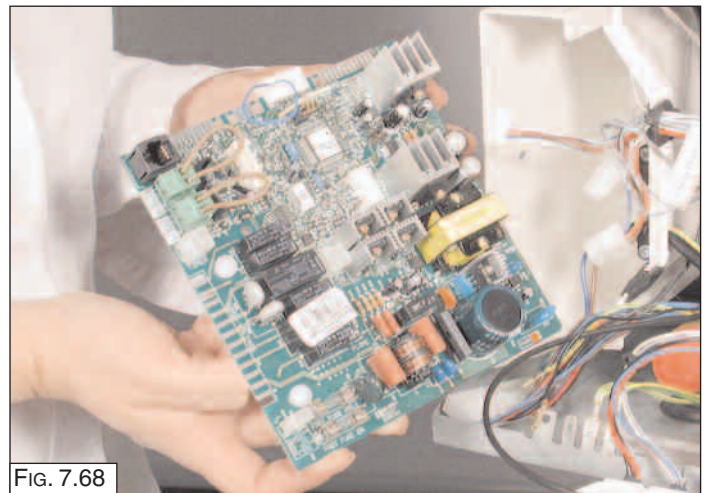

FIG. 7.68
4. Pull forward the main PCB (FIG. 7.68);